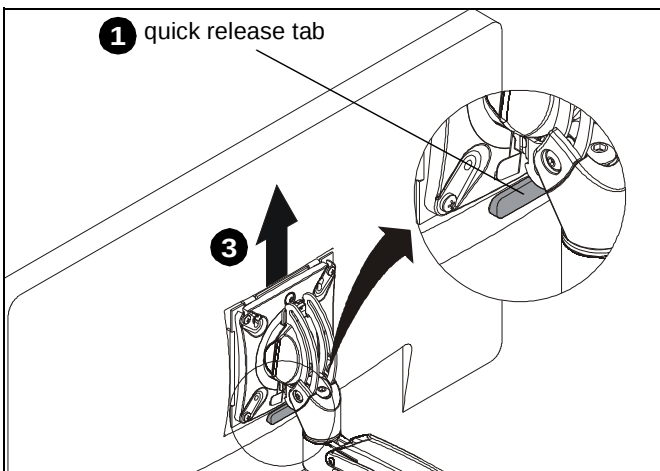
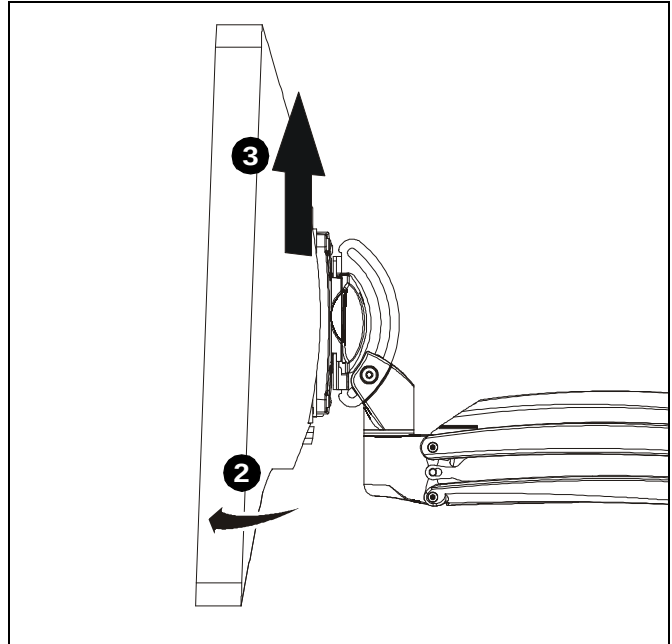

Figure 23
Figure 24
WARNING: Only remove display from mount when the display can be lifted up from the mount! DO NOT remove display unless the display is in the upright position! (See Figure 23)
1. Press quick release tab on back of display to release display from faceplate. (See Figure 23)
2. Pull bottom of display away from faceplate. (See Figure 24)
3. Lift display up from faceplate. (See Figure 23) and (See Figure 24)